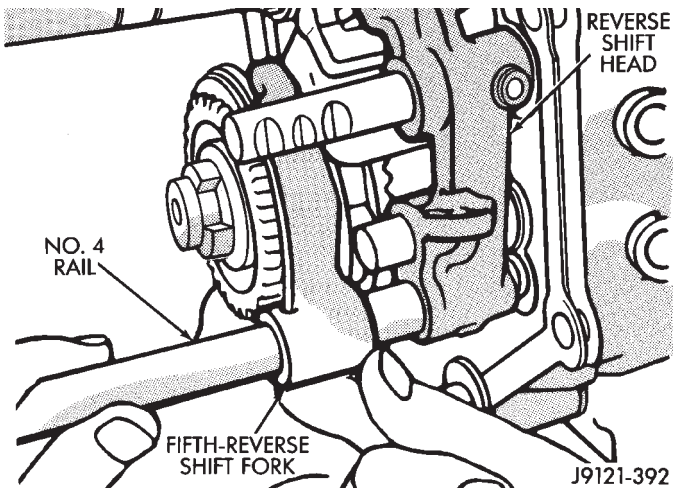

Fig. 80 Fifth-Reverse Shift Fork Installation
(16) On AX 5, install fifth-reverse shift fork in synchronizer sleeve. Then slide No. 4 shift rail into fork (Fig. 80).